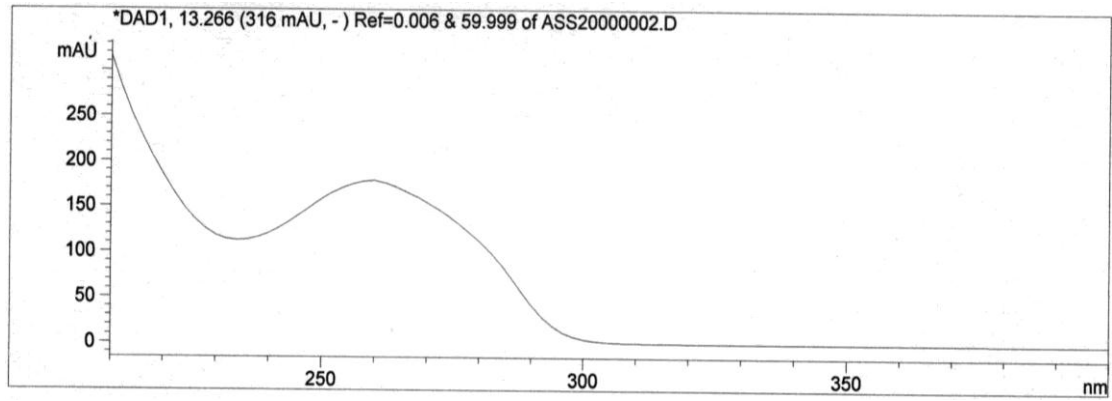

Fig. 1 UV Spectrum of florasulam
2.2 UV spectrometry. Record the UV spectrum during the HPLC determination. The UV spectrum obtained from the sample should not differ significantly from that of the standard. (Fig. 1)